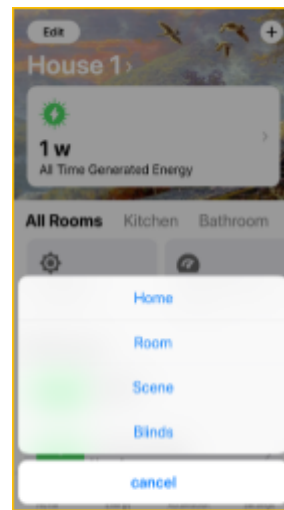

Figure 51
**10.11.2.** Select **Blinds** from the menu options (Fig. 51).